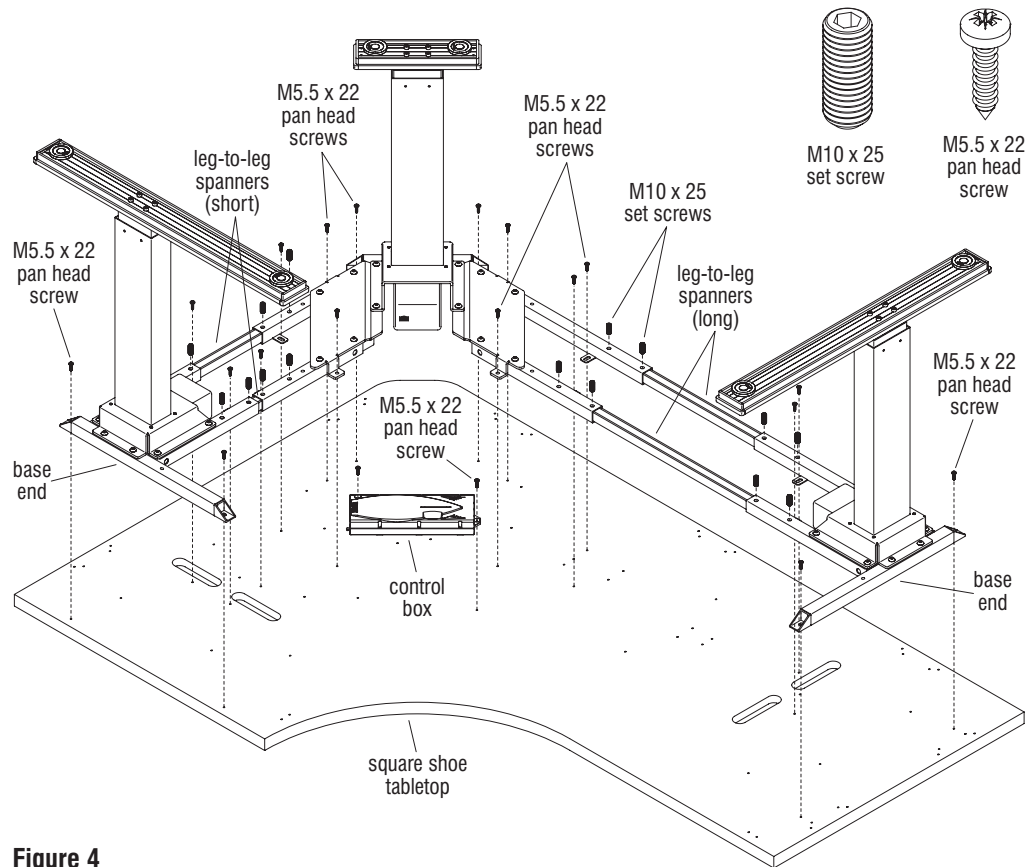
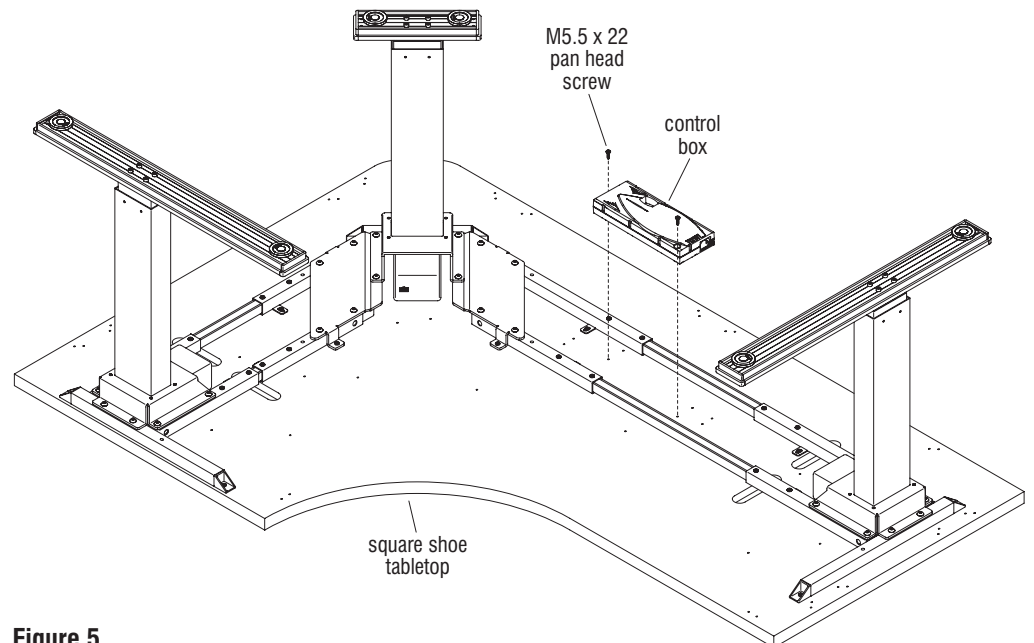

Figure 4
Figure 5
1. Carefully turn tabletop upside down on a soft, protective surface and set the base assembly onto the underside of the top. Position one base end, so base mounting holes align with tabletop mounting holes, and secure base to top using six M5.5 x 22 pan head screws. Slide the other base end into position by adjusting the cross-support tubes to align base mounting holes to the tabletop holes and secure with six M5.5 x 22 pan head screws. Next, secure the corner base mounting holes to the tabletop mounting holes using six M5.5 x 22 pan head screws (Figure 4).
2. Insert and tighten sixteen M10 x 25 set screws as illustrated, through the cross support tubes and down to the leg-to-leg spanners. Torque to 4.5 ft/lb to secure (Figure 4).
3. The control box can be mounted in one of two locations, center corner in front of the cross tube assemblies (Figure 4) or between the cross-tube assemblies on the longer side of the table (Figure 5). If desired, the control box can be used as a template underneath the tabletop to mark, then drill a hole for an alternative mounting location. Position the control box over the pre-drilled mounting hole and secure using two M5.5 x 22 pan head screws (Figures 4 & 5).